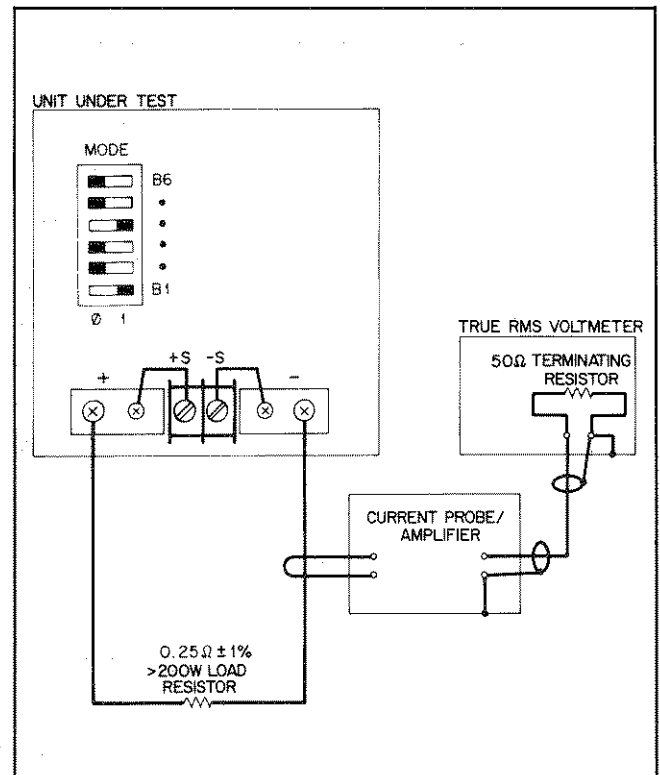

Figure 5-7. CC PARD Test Setup
Test points: See Figure 5-7
- Connect the test equipment as shown in Figure 5-7.